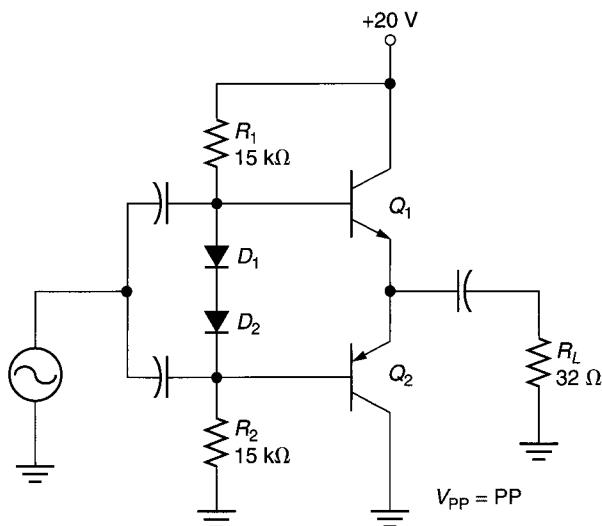

FIGURE 11.58
37. Calculate the maximum efficiency of the class AB amplifier in Figure 11.58.